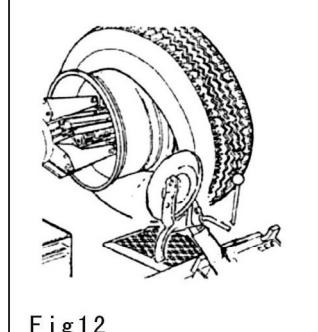

Fig12
8) Move the tool bracket to the inside of the tire and lean the circular bead breaking disk firmly against the edge of the tire. Counter clockwise rotate the wheel making the internal edge of the tire completely come off the wheel and the whole tire is detached. as **Fig 12.**